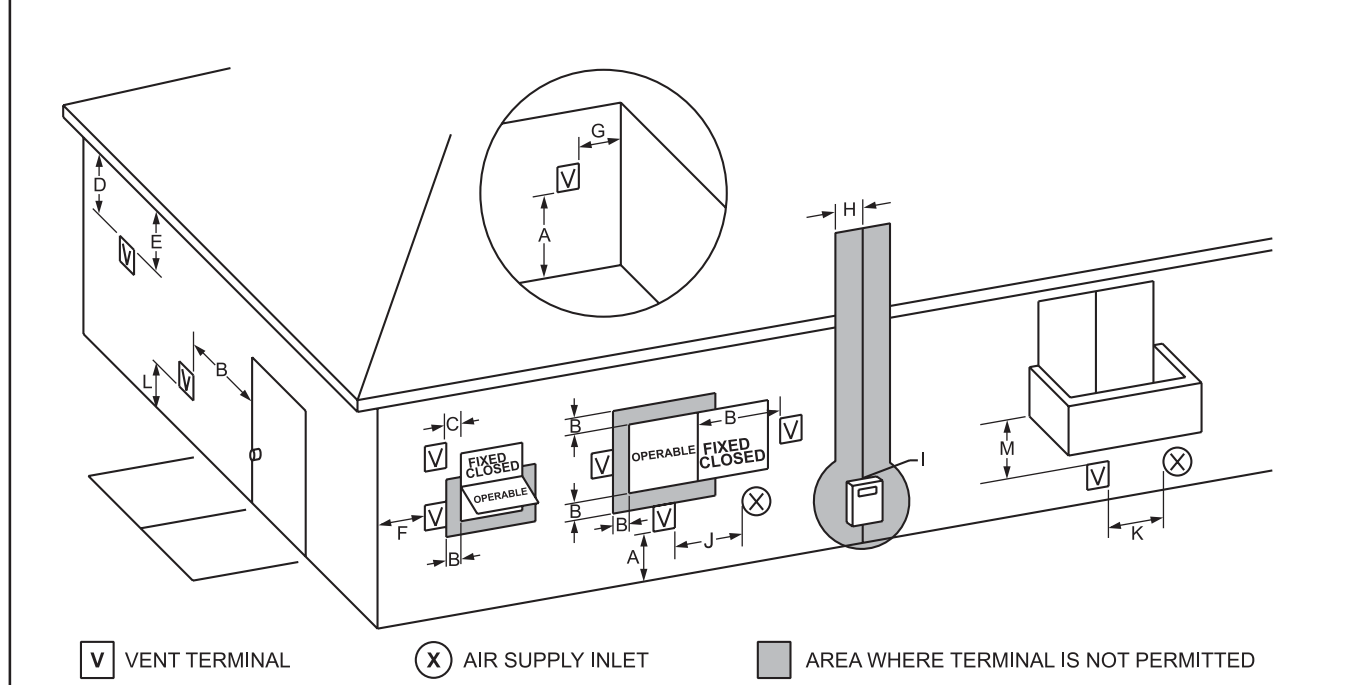

Figure 4. Combustion Air and Vent Through Side Wall.
1. **Figure 4** shows the requirements for mechanical vent terminal clearances for the U.S. and Canada.
4. If the Brute Deluxe is side-wall vented to the same wall, locate the vent terminal at least 3 feet (0.9m) horizontally from the combustion air terminal, and locate the vent terminal at least 1 foot (0.3m) above the combustion air terminal (see Figure 4).